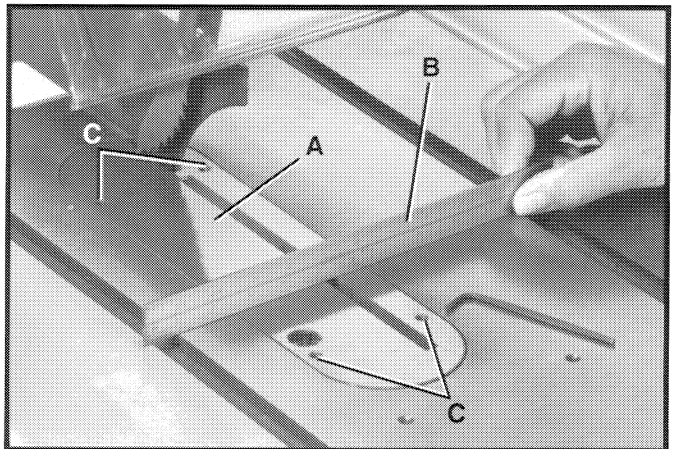

Fig. 81
Place a straight edge (B) across the table at both ends of the table insert (A), as shown in Fig 81. The table insert (A) should always be level with the table surface. If an adjustment is necessary, turn the adjusting screws (C), as needed. Four adjusting screws (C) are supplied in the table insert.